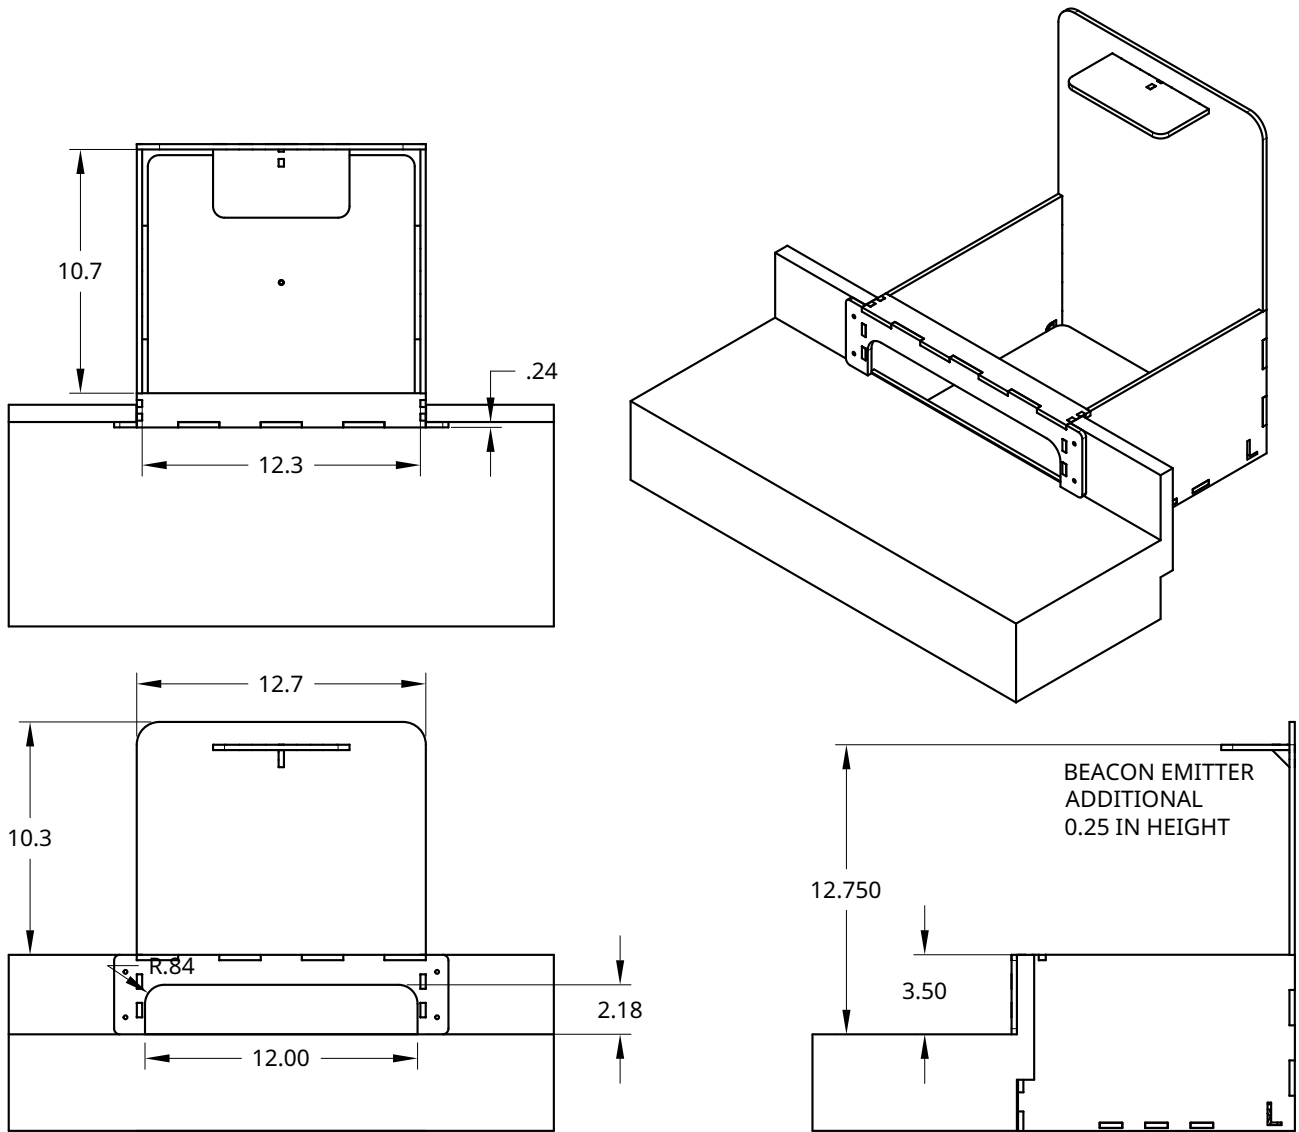

Figure 2: The landfill.
- Each landfill will have two openings for accepting GARBAGES. Dimensioned and isometric views of a landfill are presented in Figure 2.